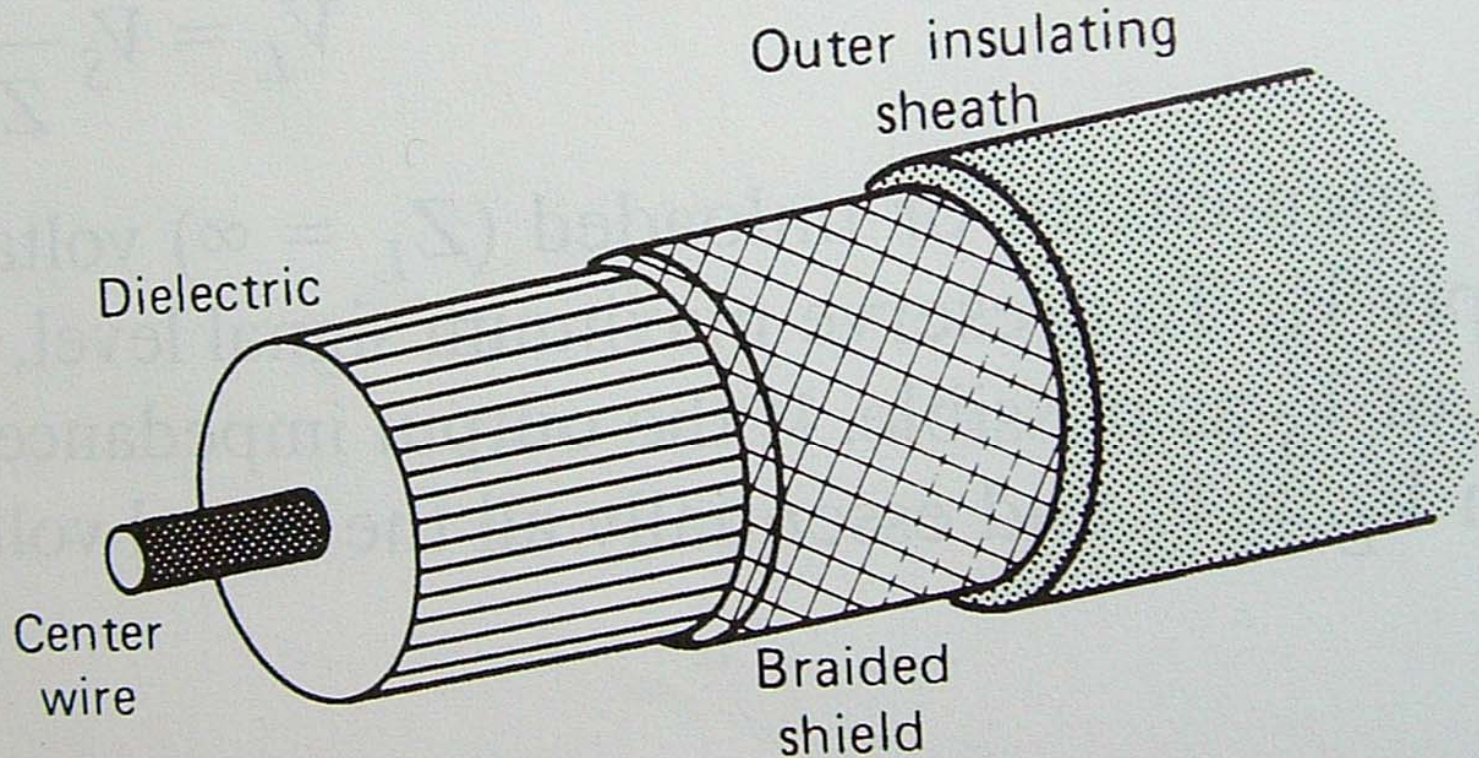

Figure 16.2 Construction of a standard coaxial cable.
- Virtually all interconnection of components in a detector system is carried out with shielded coaxial cable (Fig 16.2)